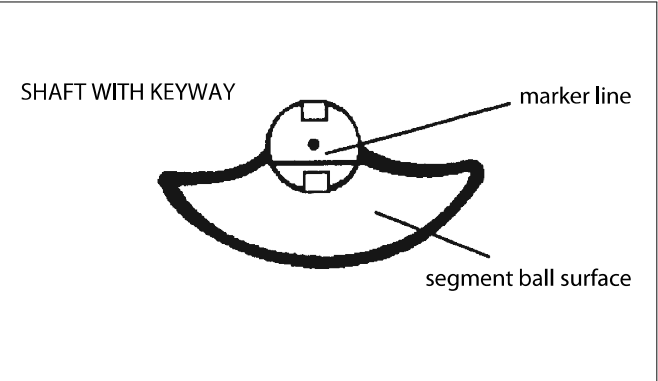

Fig. 25 Segment and shaft position
- ❑ Use a plastic spindle to ensure that the seat is correctly placed and can move freely, Fig. 25.
- ❑ Install the drive shaft (11). Note the location of the pin hole and the keyway. See Fig. 25.